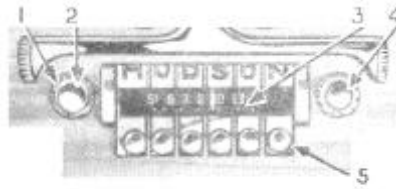

Figure 58
The tone control ring (1) is located directly behind the volume control knob (Figure 58). Rotating this control to the right or left will change the tone of the receiver. The treble position is useful in overcoming wind, noise, etc., when driving, while the bass position brings out the full mellow tones of musical programs. With the tone control set midway, the full tonal range is obtained. Turning to the right will emphasize the high notes, while turning to left will emphasize the bass notes.